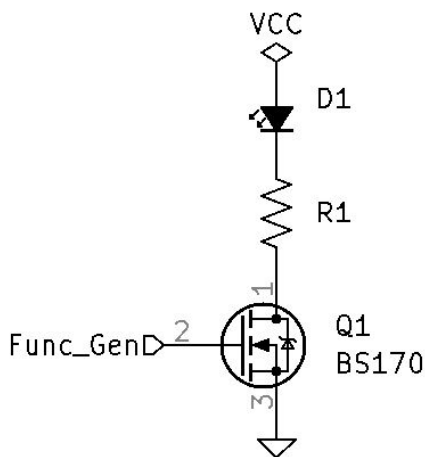

Figure 10.1: Switch Test Circuit 1
2. Design a circuit to test the switching ability of the BS170. See *Switch Test Circuit 1* Figure 10.1. Make $VCC = 40V$.